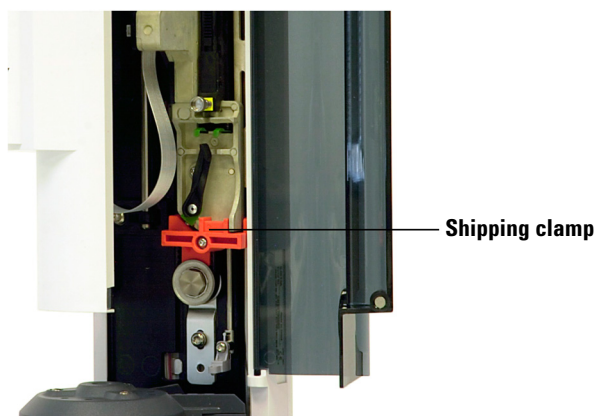

Figure 8 Shipping clamp installed on ALS
- e Using a T-10 Torx driver, install the shipping clamp on the syringe carrier to keep it in place. See Figure 8 on page 67.